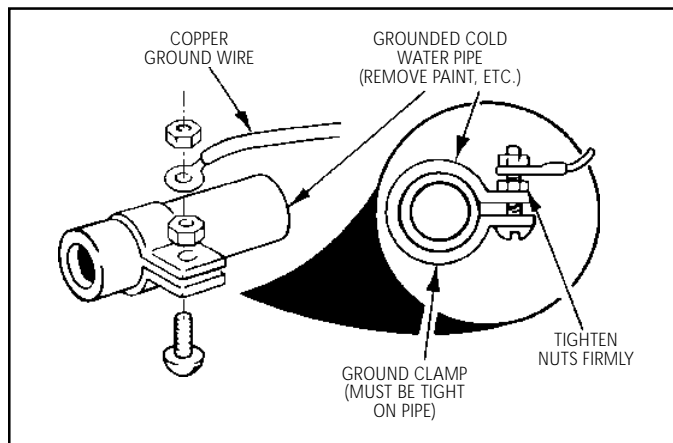

Figure 6
**B. If used in mobile home or if local codes DO NOT permit frame grounding to the neutral,** separate the white and bare ground wires that extend out of the end of the supply cable of the appliance. Connect the white wire from the supply cable to the neutral white wire in the junction box. Connect the black wire from the supply cable to the black wire in the junction box. Connect the red wire from the supply cable to the red wire in the junction box. The bare wire must now be used to ground the appliance in accordance with local electrical codes. Connect the bare copper ground wire to a grounded cold water pipe\* or to the grounded lead in the service panel. Do not ground to a gas supply pipe. Do not connect to electrical power supply until appliance is permanently grounded. Connect the ground wire before turning on the power. (see figure 6)